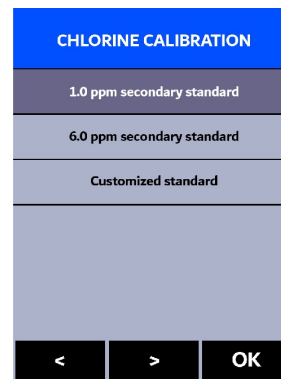
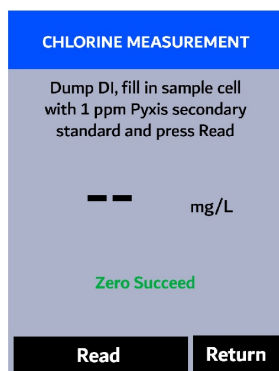

Figure 36.
Figure 37.
6. Use **<** and **>** to cycle to the desired secondary standard (Figure 36).
8. Rinse the conductivity/chlorine sample cell three times with deionized (DI) water. Fill the sample cell with DI water.
9. Press **Zero** (**<** or **>**). The message **"Zero Succeed"** will appear on the bottom of the display (Figure 37).